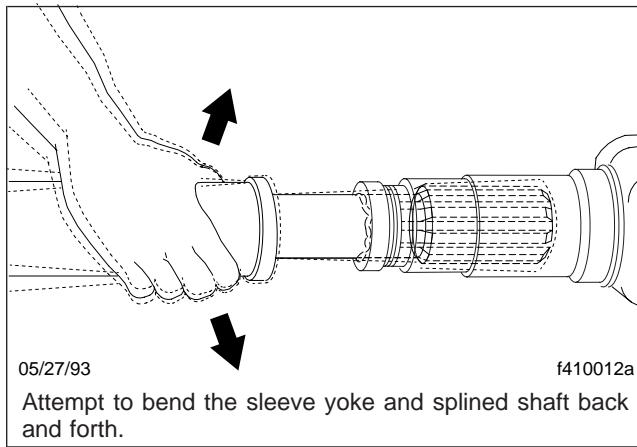

Fig. 2, Slip Joint Spline Wear Checking
5. Check slip joints for spline wear by attempting to bend the sleeve yoke and splined shaft back and forth. See Fig. 2. If radial looseness is greater than 0.007 inch (0.18 mm), replace both the sleeve yoke and the splined shaft.